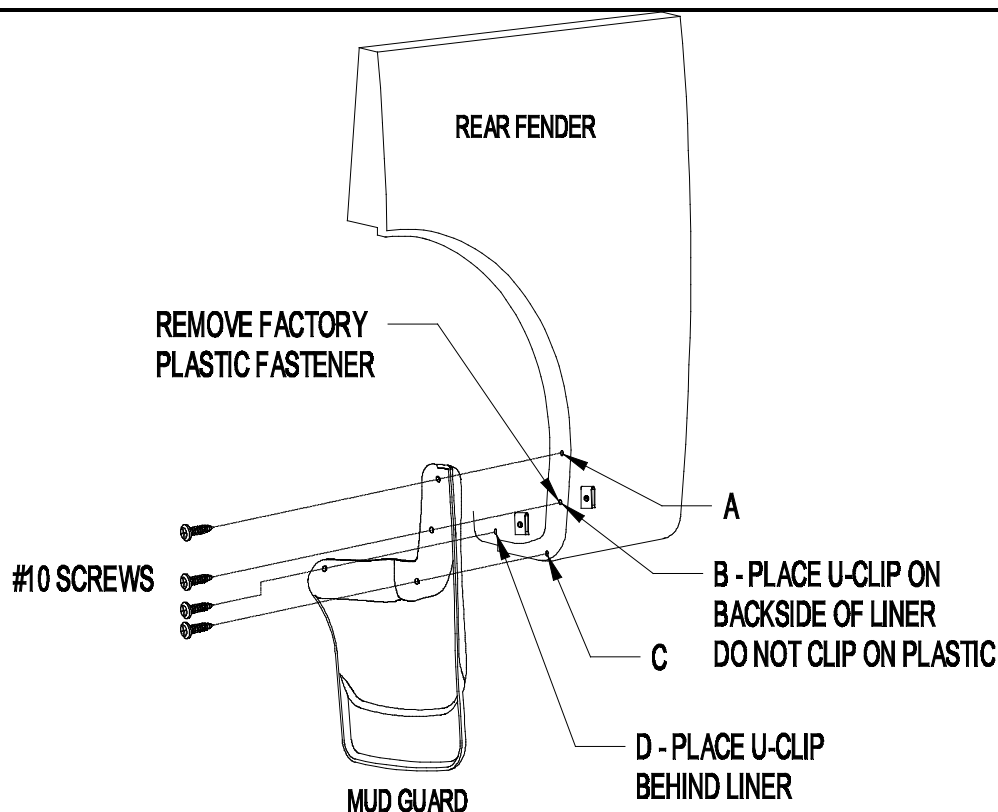

Figure 1
2. Remove factory plastic fastener from location B (Figure 1).